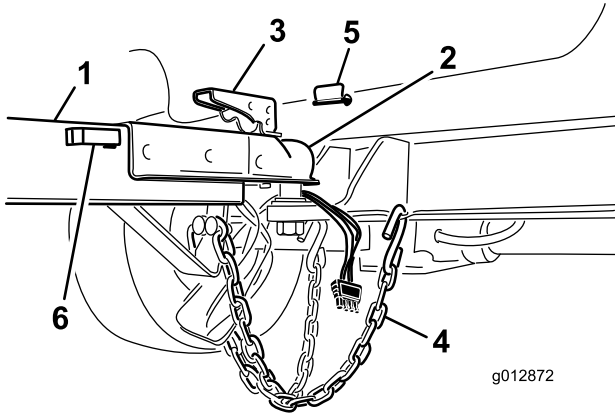

Figure 12
2. Lift the coupler lever on the tongue while lowering the cover over the ball hitch (Figure 12).